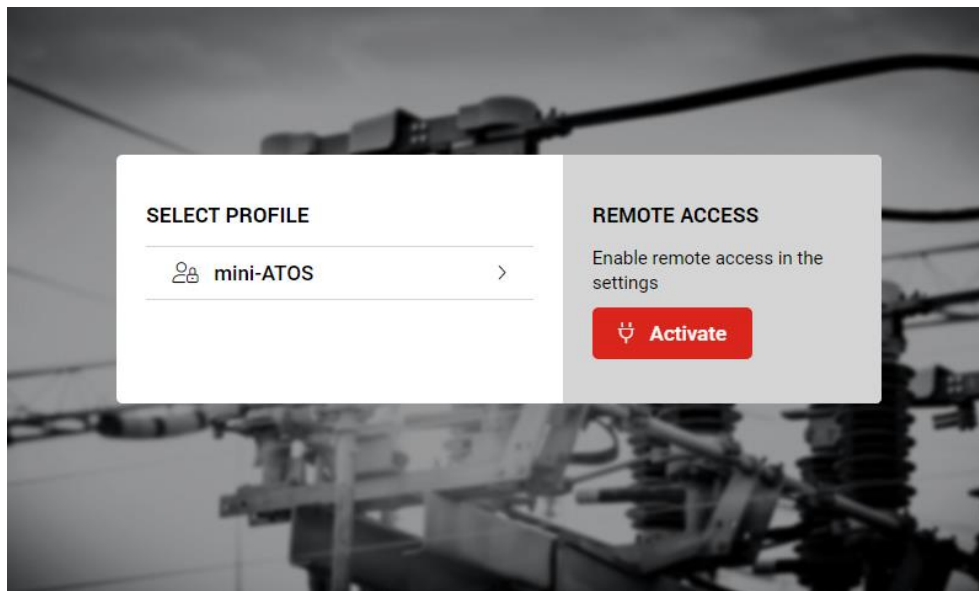

Figure 70: Select Profile page on the mini-ATOS display
- 3- From the home page or the main menu, tap the logout icon  to see the select profile page like Figure 70